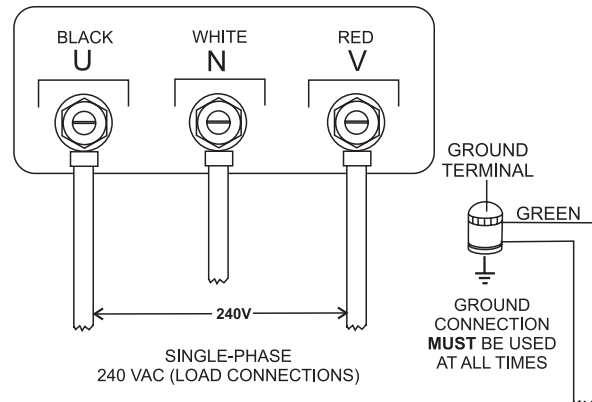

Figure 16. Output Terminal Lugs Single-Phase 240-Volt Connections
1. Connect the load wires to the output terminal lugs as shown in Figure 16.